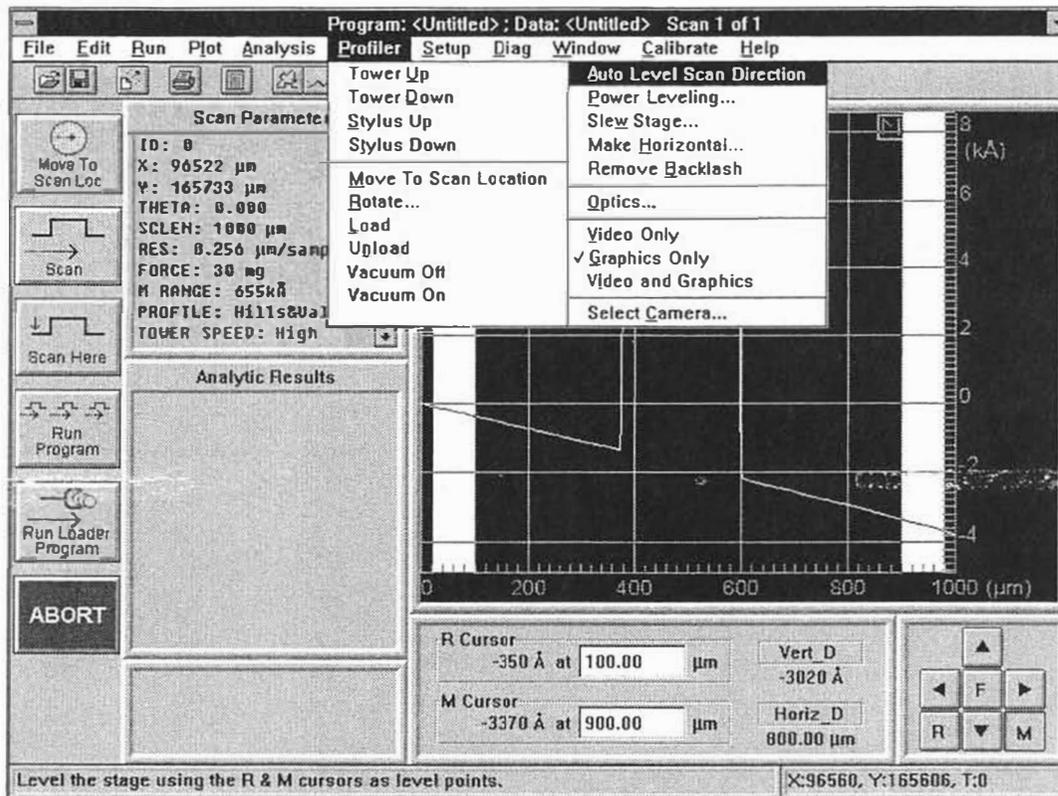

Figure 4-6. Auto Leveling of the Stage
1. To use auto leveling, click-on "Profiler" from the system menu bar, click-on "Auto Level Scan Direction" (see Figure 4-6).